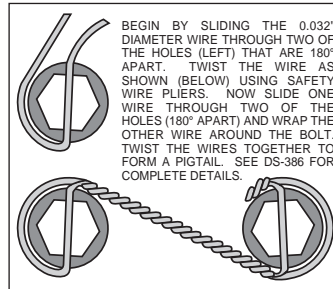

Figure 3. Safety Wire Diagram
- Orient the rotor (7) and the hat (8) as shown in Figure 1 and Photo 2. Attach rotor to hat using bolts (10) and washers (9). Using an alternating sequence, apply red *Loctite*® 271 to the threads, and torque to 155 in-lbs. Safety wire bolts using standard 0.032 inch diameter stainless steel safety wire as shown in Figure 3. Please refer to Wilwood's data sheet DS-386 (available at www.wilwood.com/Pdf/DataSheets/ds386.pdf) for complete safety wire installation instructions.